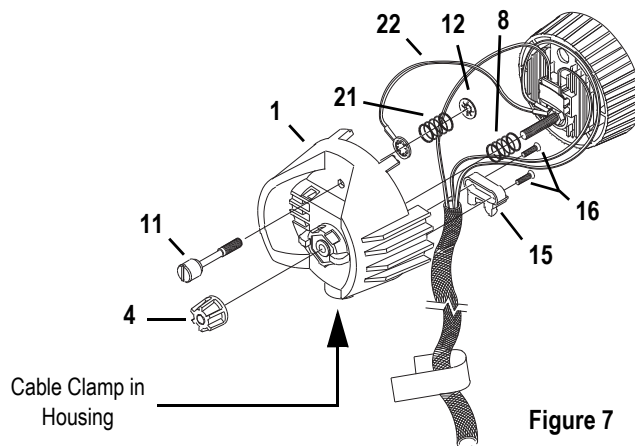

Figure 7
Step 19: Insert the knurled head screw (11) through the housing socket casting (1) as shown in Figure 7.
Step 20: Install the shorter green ground wire (22) onto the screw. The prongs on the crimped connector should be toward the casting.
Step 21: Install the ground spring (21) onto the screw and secure it with the Southco flat retaining ring (12). Install the Southco ring with its prongs away from the casting.